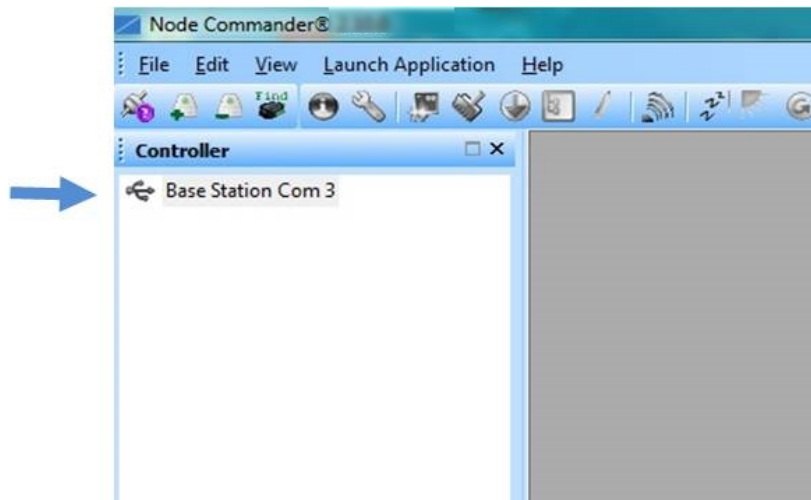

Figure 4 - USB Gateway Communication
3. The gateway should appear in the Controller window automatically with a communication port assignment (Figure 4 - USB Gateway Communication). If it is not automatically discovered, verify the port is active on the host computer, and then remove and re-insert the USB connector.